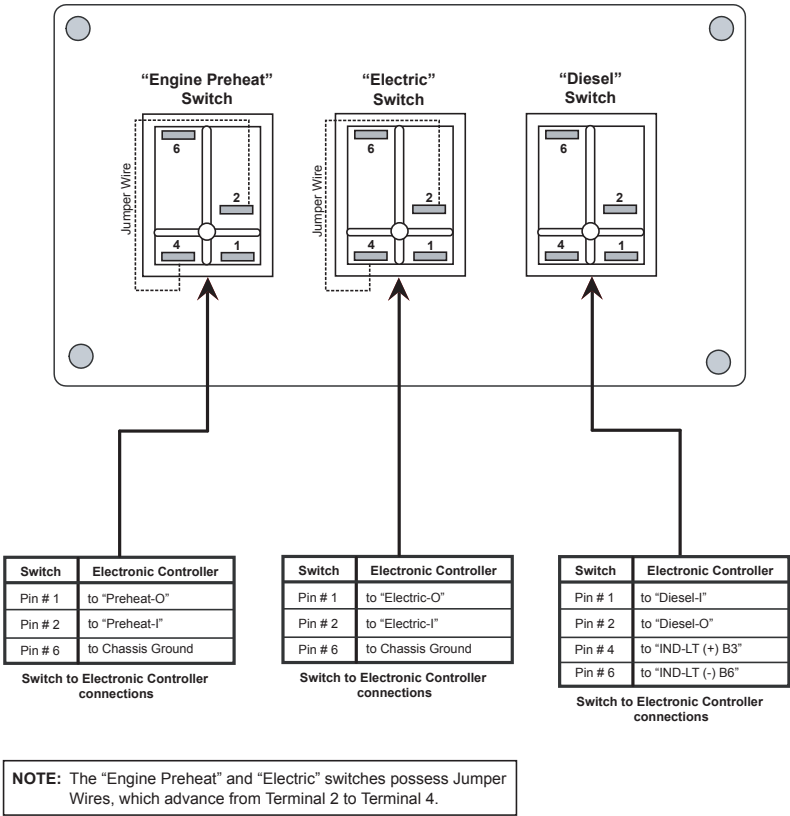

Figure 26
NOTE: Be sure to attach "Jumper Wires" where necessary; reference Figures 26 and 27.
3. Connect all switch wires to the appropriate switch connections as illustrated in Figures 26 and 27. Reference Appendix A for additional wiring information.